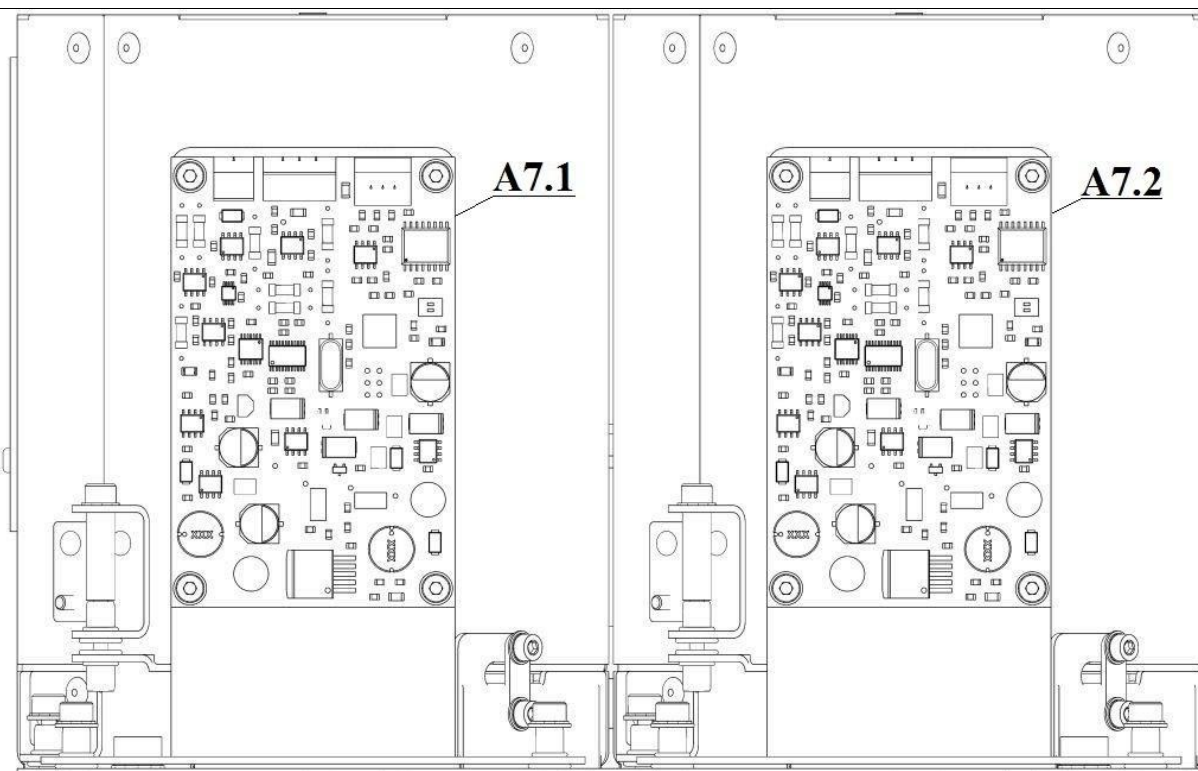
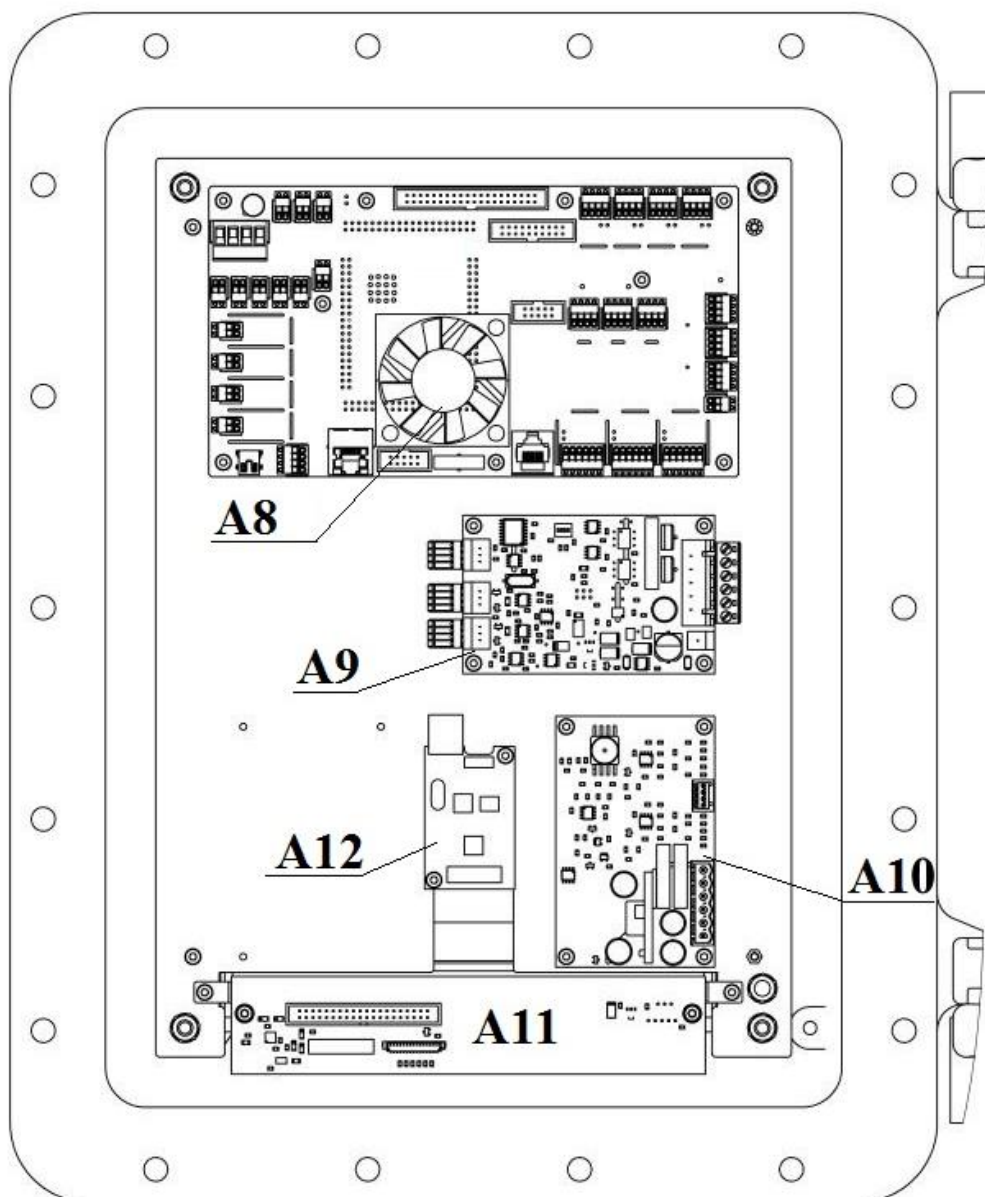

Fig. 6. Electronic modules inside the housing of the chromatograph "MAG"
Fig. 7. Electronic modules on the cover of the chromatograph "MAG"
The electronic units of the chromatograph control are placed in the housing (see Fig. 6) and on the cover (see Fig. 7) of the explosion-proof enclosure of the device.
The following boards are placed on the cover of the chromatograph "MAG" (see Fig. 7):
- **A13.** Touchscreen (optionally, not shown in Fig. 7);
- **A14.** 12" LCD display for display of current information on the state of the device, measurement results and chromatograms, more detailed see point 2.6.4 (optionally, not shown in Fig. 7);